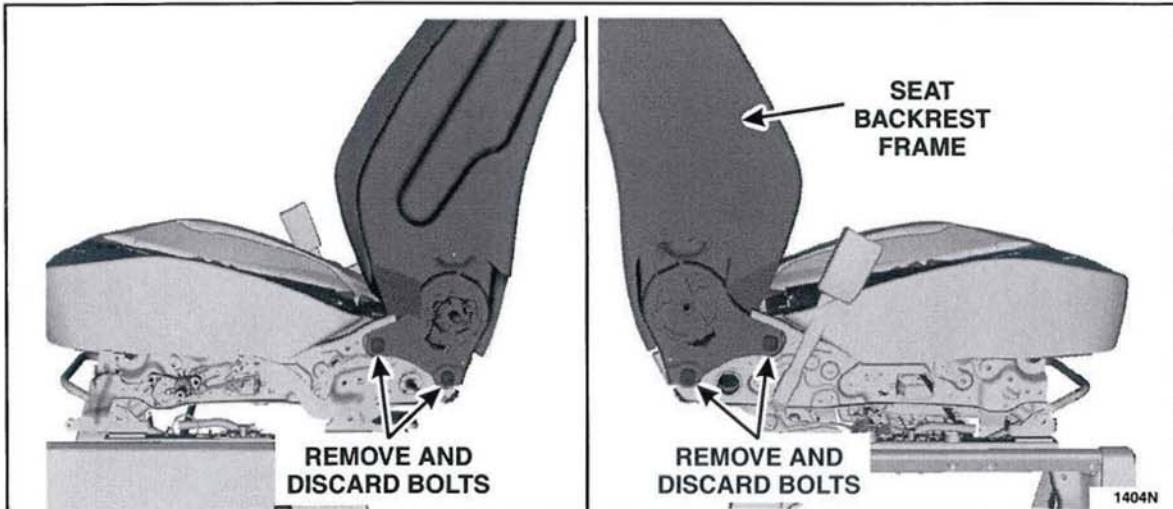

FIGURE 15
16. Remove the four torx bolts and the backrest frame. Discard the bolts. See Figure 15.